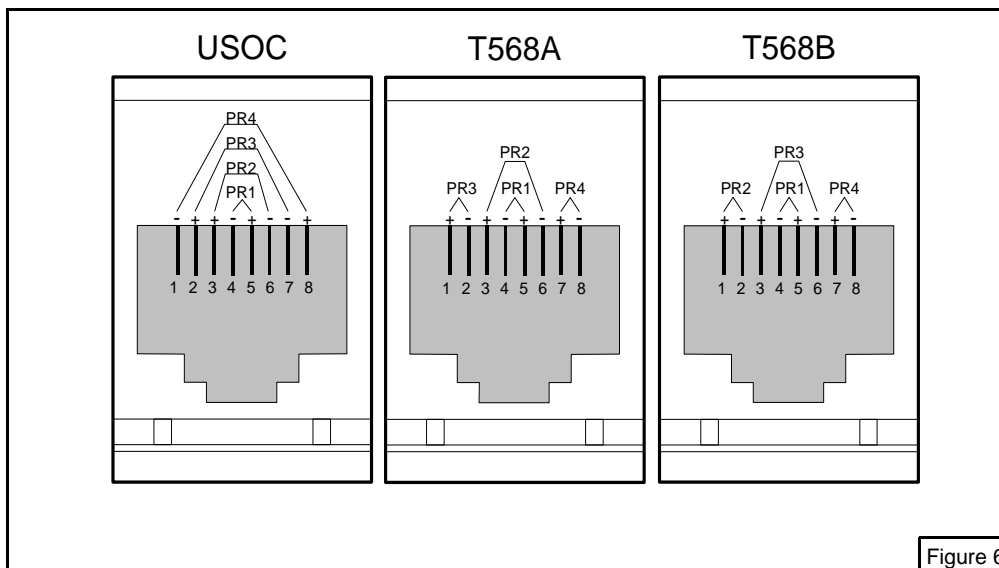

Figure 6
- The label of the jack has a row of numbers that correspond to the pin numbers. There is also an upper and lower row of color codes labeled A and B that correspond to the T568A and T568B standards respectively. For USOC connections, use the color code table to determine the wire color for each pin number. **(Figure 6 and Color Code Table)**